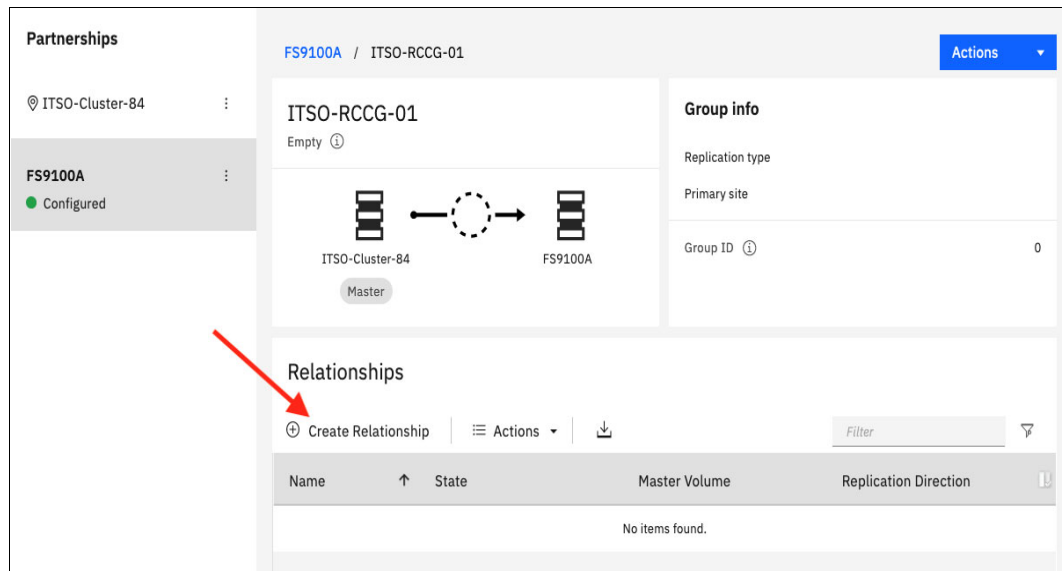

Figure 10-114 Creating a Remote Copy relationship in an existing consistency group
3. If you want to add the relationship to an existing consistency group, select the consistency group for which you want to create the relationship and click **Create Relationship**, as shown in Figure 10-114.